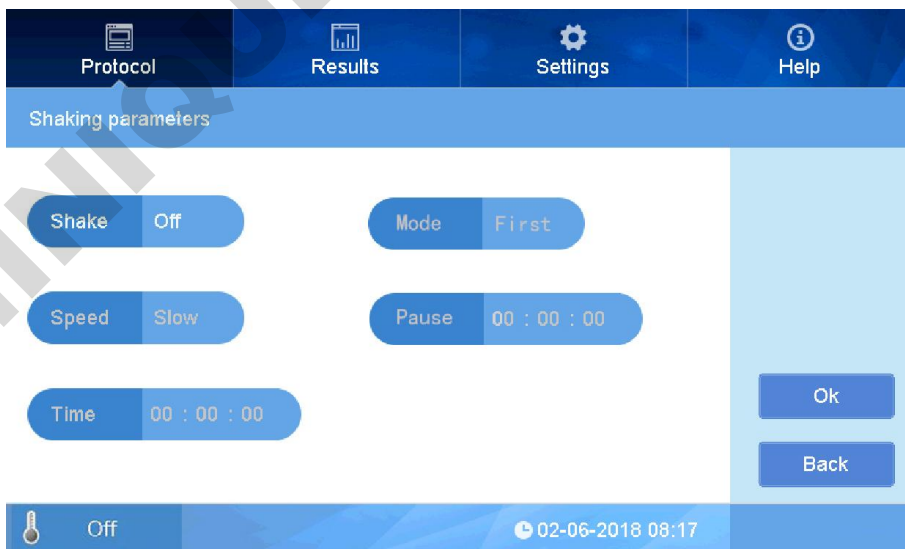

fig 22
- On “protocol” interface, click area near “Shake” to “Shake parameters” to set shake function On or Off, speed and time(Fig 22).